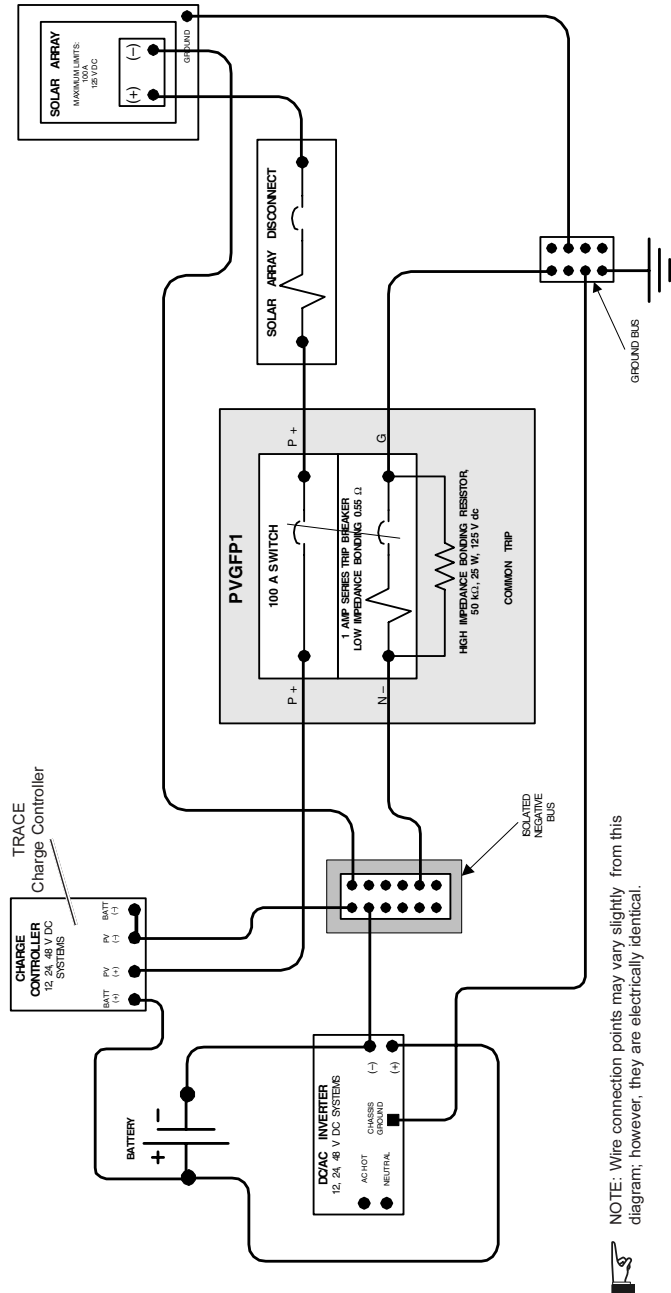
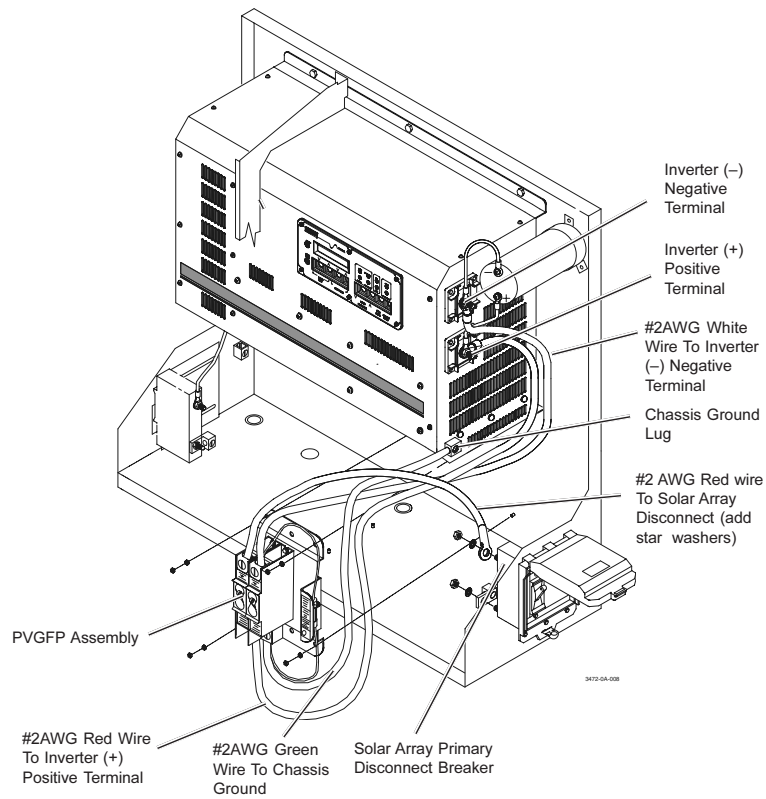

Figure 8
Figure 9
NOTE: Refer to Figure 8 for a basic wiring diagram.
5. The lower terminals from the PVGFP are routed to the charge controller's PV + Terminals. Refer to the schematic diagram (Figure 8) for system wiring.
8. Refer to Figure 8 for the basic wiring diagram and Figure 9 for a diagram of the SWODE enclosure.
NOTE: Connect the ohmmeter between the inverter's negative terminal and chassis ground lug for SWODE installations. Refer to Figure 9 for locations.